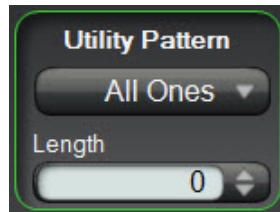

Figure 71. All ones pattern
3. Click on the **All Ones** button to insert a pattern consisting of logic ones. The **Length** field defines the total bit length of the pattern. Refer to Figure 71.